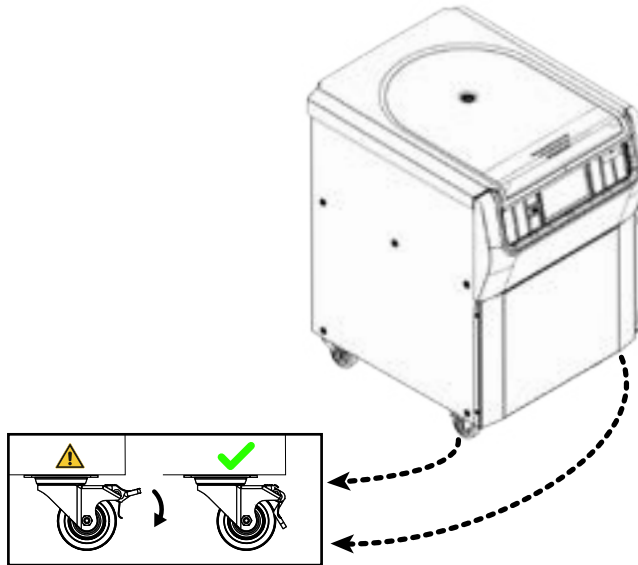

Figure 1-9: Locking the Centrifuge Castors
20. To lock the castors, step on the lever that sticks out from underneath the front side of the centrifuge, as shown in Figure 1-9.